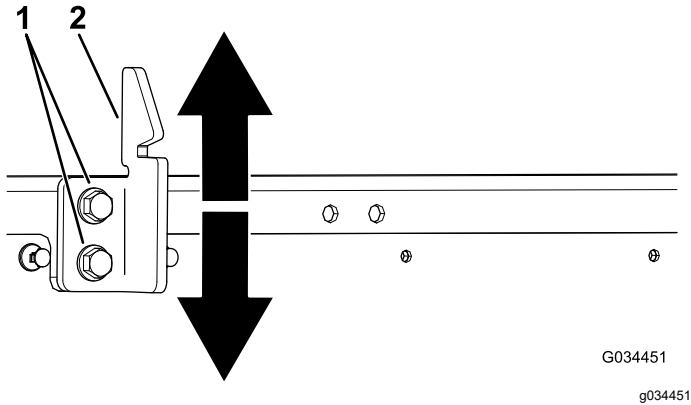

Figure 55
3. Loosen the 2 bolts on the bed-latch striker and move the striker up or down, depending on if the striker is too high or too low (Figure 55).
4. Tighten the 2 bolts on the bed-latch striker (Figure 55).